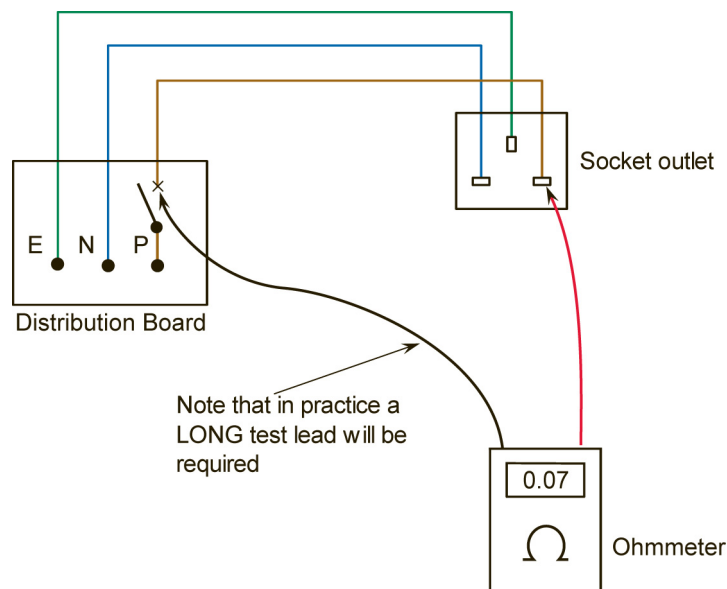

Figure 21.
- Connect one lead of the ohmmeter to the phase conductor in the distribution board as shown in Figure 21.